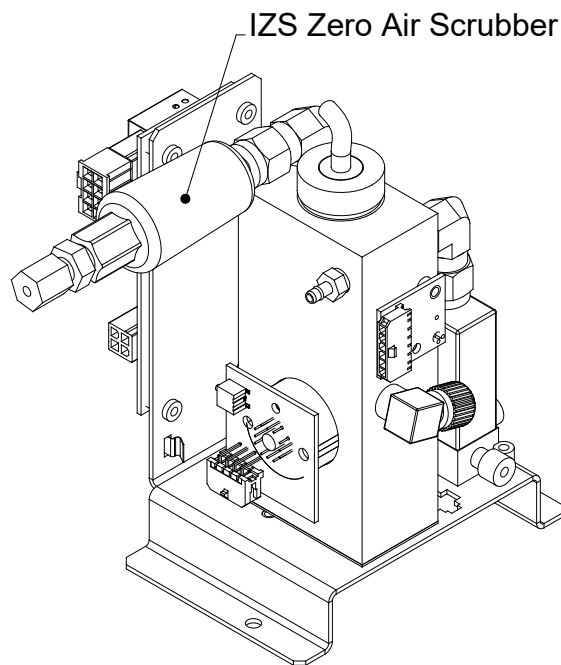

Figure 5-7. Replacing the IZS Zero Air Scrubber
3. Disconnect the white nylon $\frac{1}{4}$ "- $\frac{1}{8}$ " fitting from the Zero Air Scrubber (See Figure 5-7).